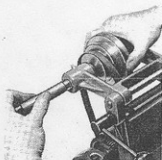

Fig. 5
*b* Check that the rubber bushes (11) are in position, slide the countershaft (2) through the left-hand bearing of the swing head, (facing the rear of the machine), and slip the headstock vee belt over the countershaft, slide the countershaft into the vee cone pulley, (3) which should be held between the swing head bearings with the small step on the left. See Fig. 5.